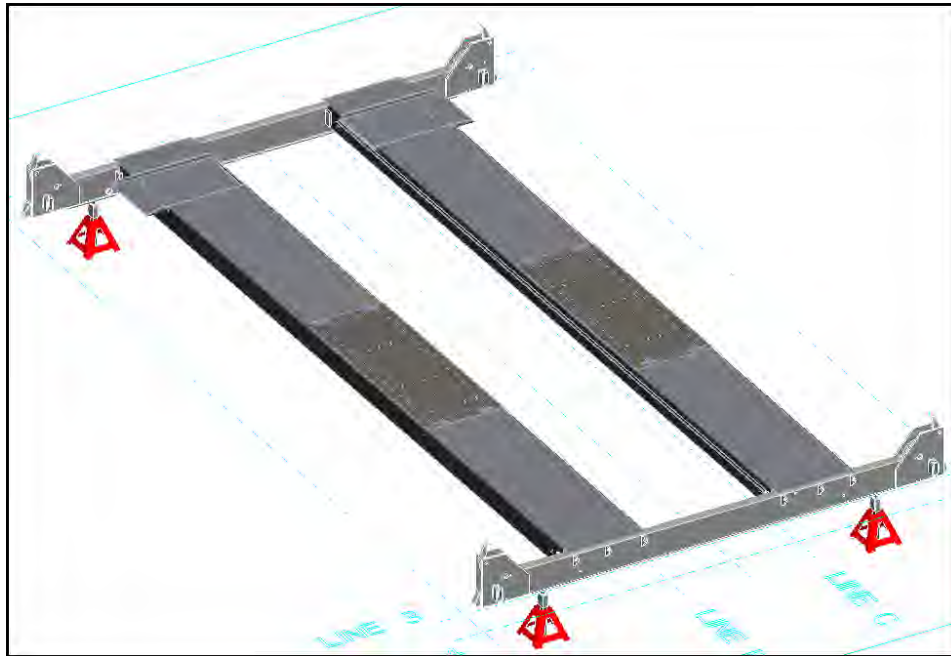

Figure 15. Jack Stand setup on Crossmembers
- Using floor jack(s) and/or engine hoist(s), move the (4) jack stands from under the left side deck to each corner on the crossmember. **Figure 15**